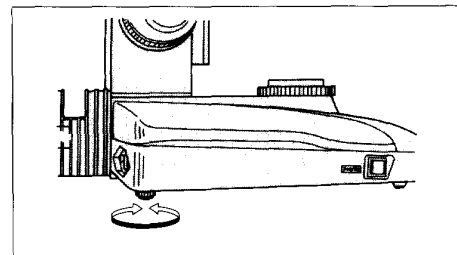

Fig. 2-3
② Leveling Foot Screw
- For stable installation of the microscope, manipulate the adjustment screw at the rear-left of the base (Fig. 2-3).